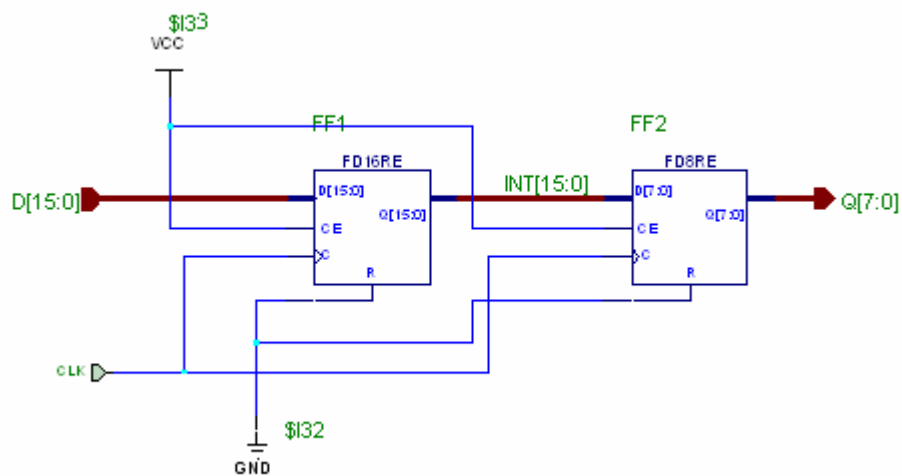

Figure 32
32. Buses are connected to symbol pins in left-to-right order. For example, in Figure 32, INT[15:0] is connected to FF2/D[7:0], whereas INT[7:0] is not connected to anything. What a mess! It's best always to have the same number of bits on both sides.